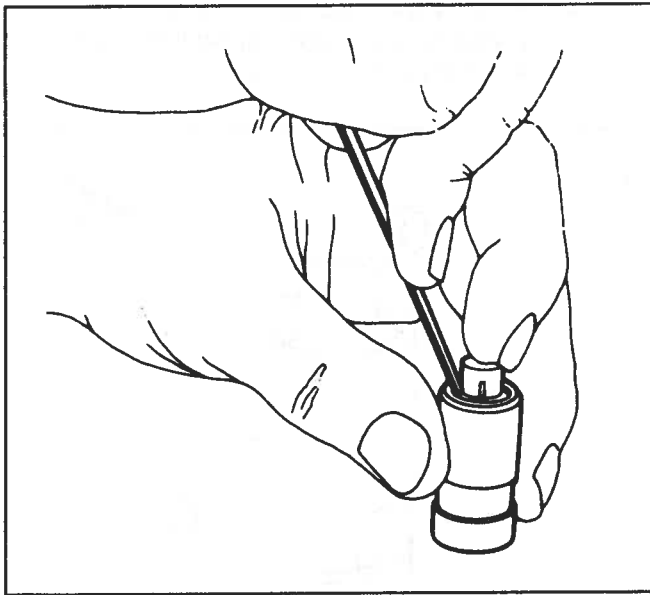

Figure 8-120. Lifter Check-Ball Installation
3. Back out adjusting nut until lash is felt at push rod, then turn (Figure 8-120) adjusting nut until all lash is removed. This can be determined by moving push rod up and down while turning adjusting nut until all play is removed.